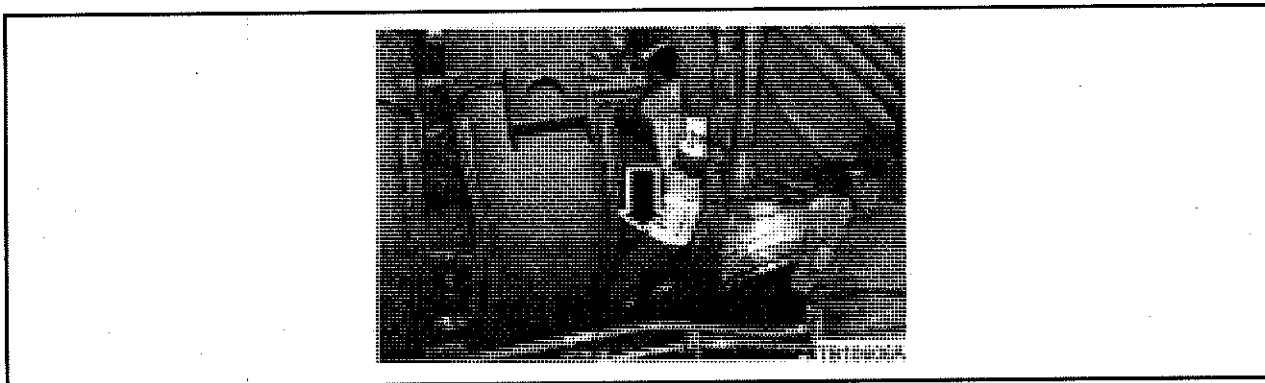

Figure 1 - Article 15-0036
- a. Yes - inspect the engine harness for chafing against the intake manifold, near the throttle body. (Figure 1)